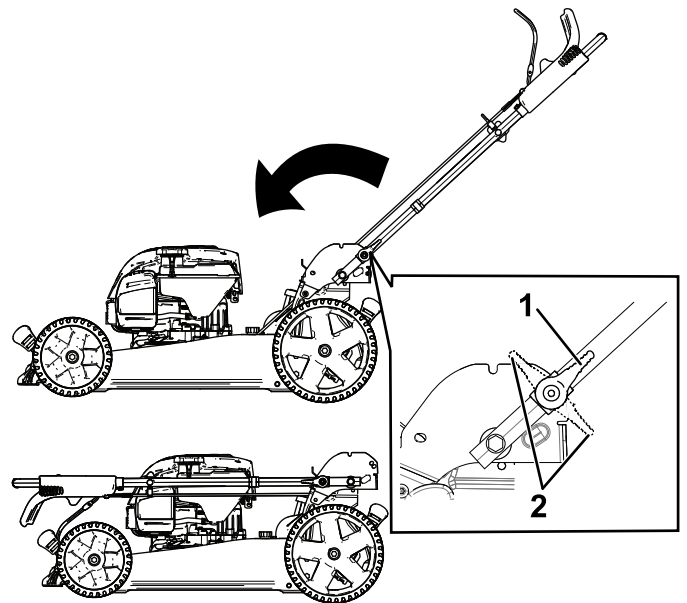

Figure 22
3. Disengage the handle locks (Figure 22).
4. Fold the handle fully forward (Figure 22).